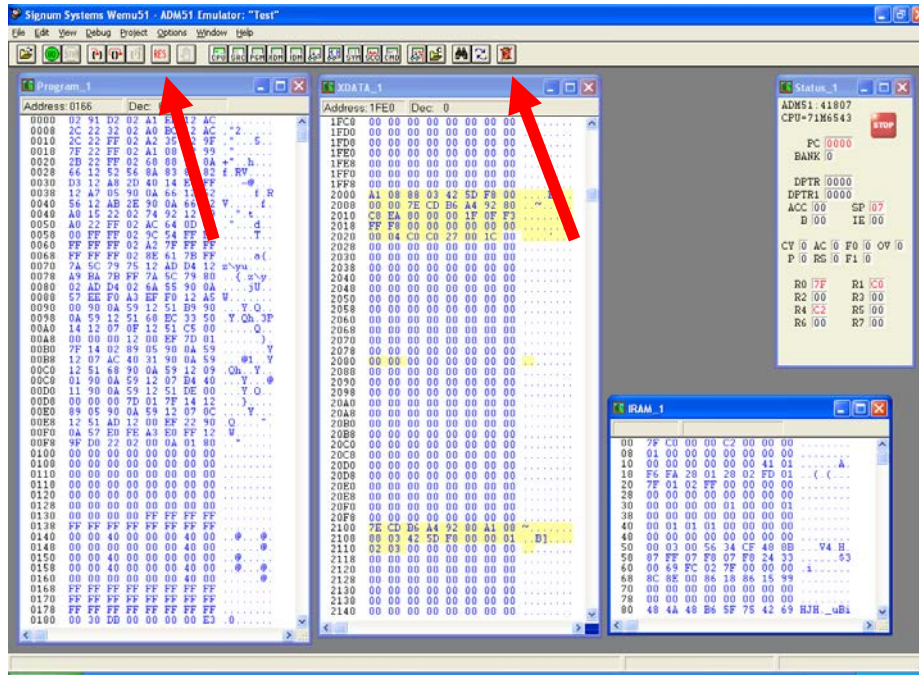
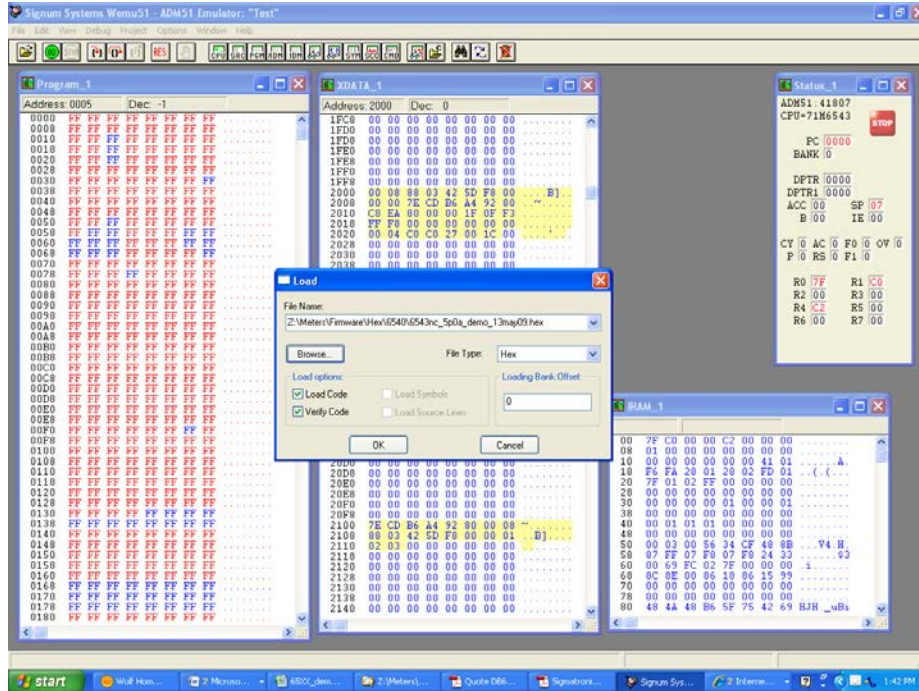

Figure 1-5: Emulator Window Showing Reset and Erase Buttons (see Arrows)
Figure 1-6: Emulator Window Showing Erased Flash Memory and File Load Menu
**In-Circuit Emulator:** If firmware exists in the 71M6541F flash memory; it has to be erased before loading a new file into memory. Figure 1-5 and Figure 1-6 show the emulator software active. In order to erase the flash memory, the RESET button of the emulator software has to be clicked followed by the ERASE button.
Once the flash memory is erased, the new file can be loaded using the commands File followed by Load. The dialog box shown in Figure 1-6 will then appear making it possible to select the file to be loaded by clicking the Browse button. Once the file is selected, pressing the OK button will load the file into the flash memory of the 71M6541F IC.